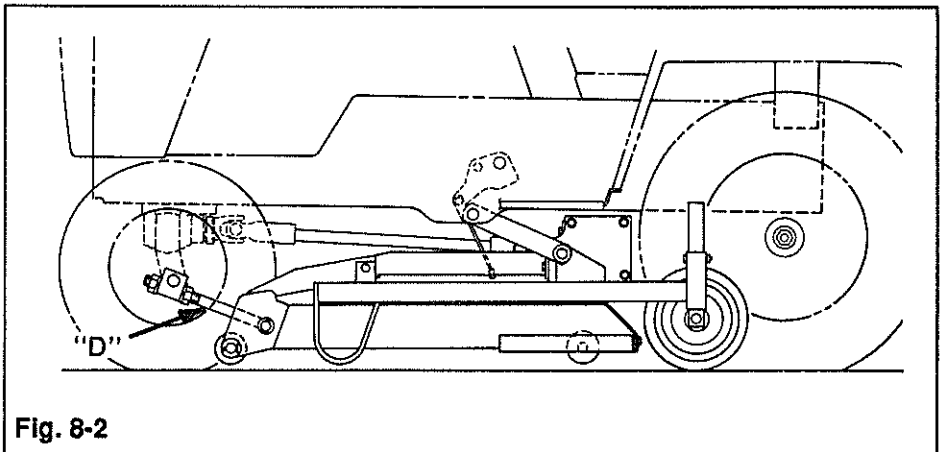

Fig. 8-2
4. Measure mower blade tip height front and rear. Front of blade should be even with rear. If not, adjust rod length of front links (D, Fig. 8-2). Lengthen rods to lower front and shorten rods to raise front.